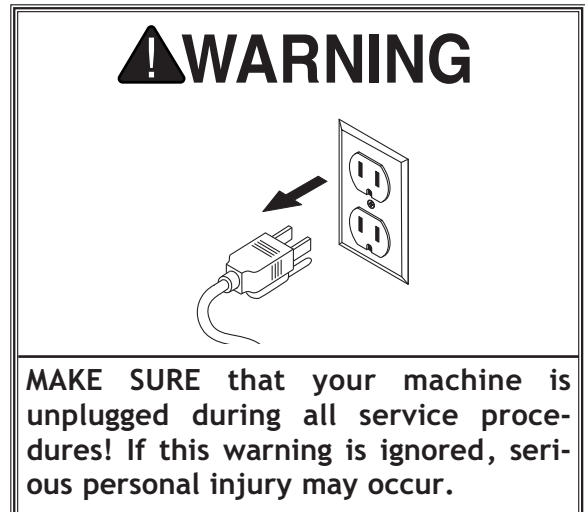

Figure 41. Cleaning quill.
2. Clean and lubricate quill (see **Figure 41**) as described in **Lubrication** on **Page 34**. Quill should travel freely.